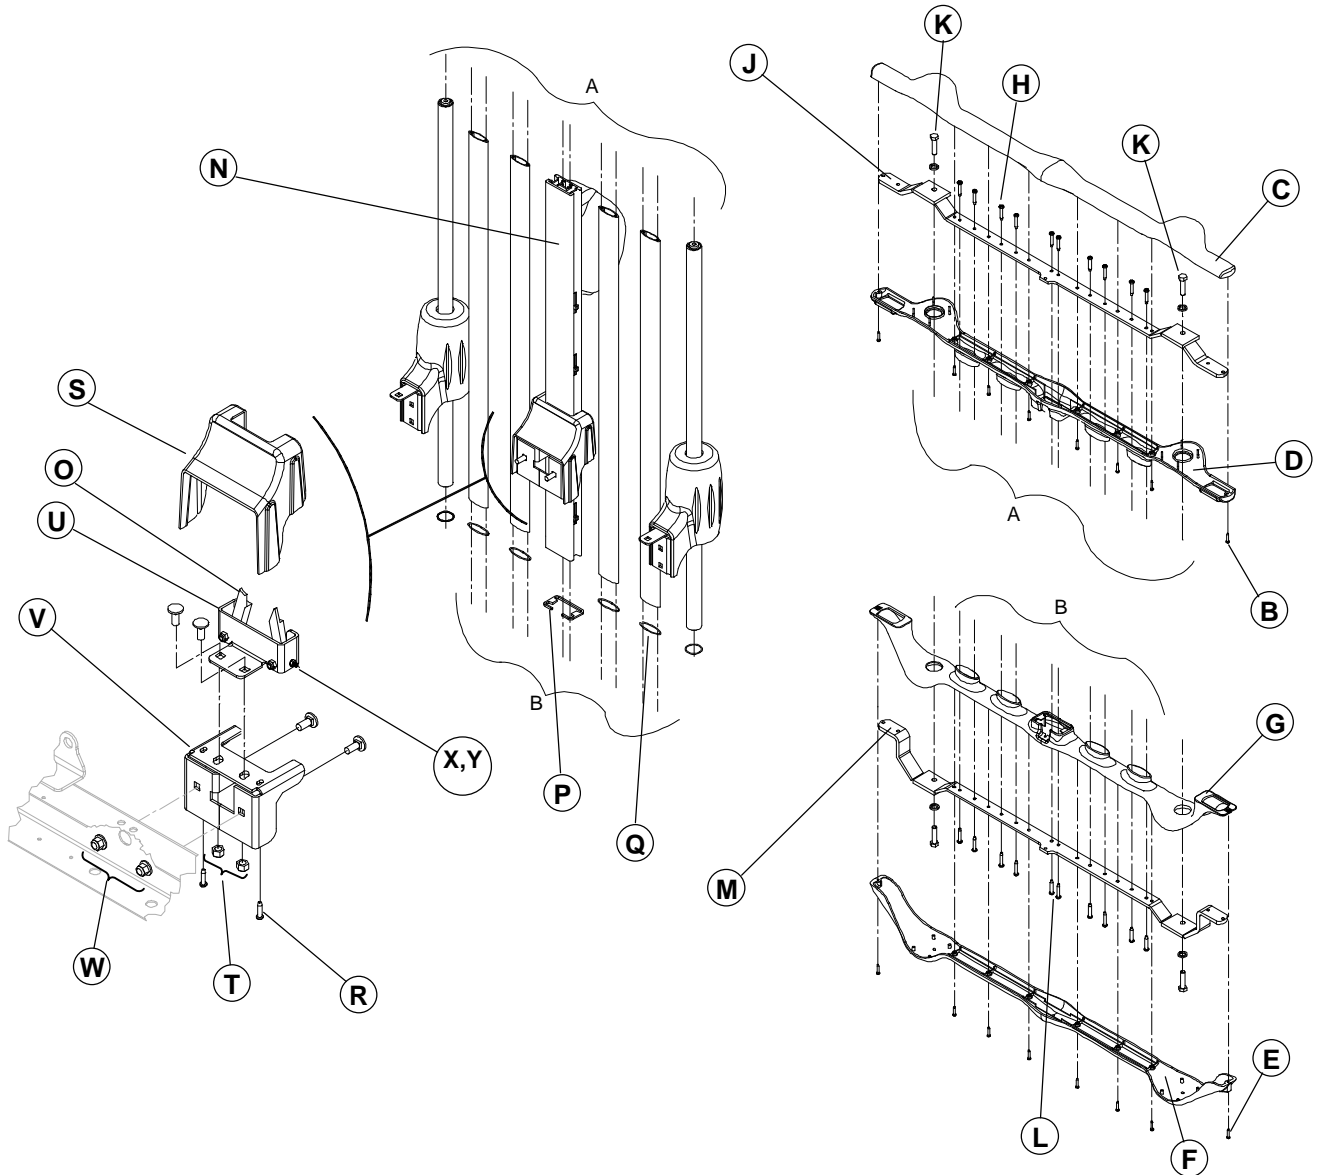

Figure 3.15B
Unless otherwise stated, reference letters in the following procedure refer to figure 3.15B, page 43.
4. Using a Phillips screwdriver, remove the eight screws (E, fig. 3.15B, page 43) holding the rail bottom plastic cover to its upper counterpart. If working on a siderail, open the access doors to reach the last screw on each end of the upper plastic cover. Note that on a siderail with fixed access doors, these two last screws are not present.